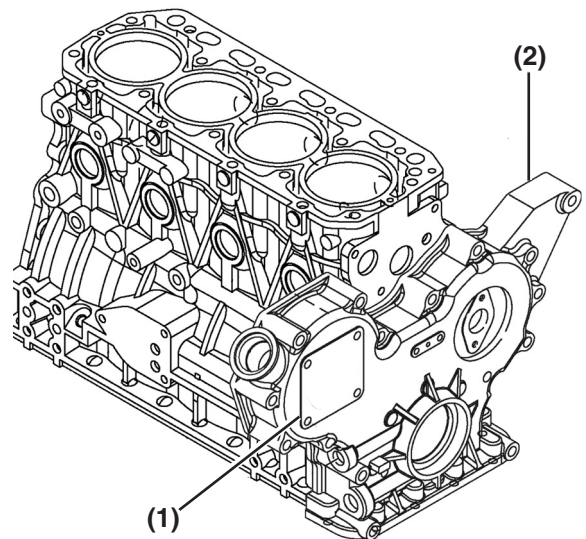

Figure 7-9
15. Remove the fuel injection pump drive gear cover (**Figure 7-9, (1)**) from the gear case cover (**Figure 7-9, (2)**).